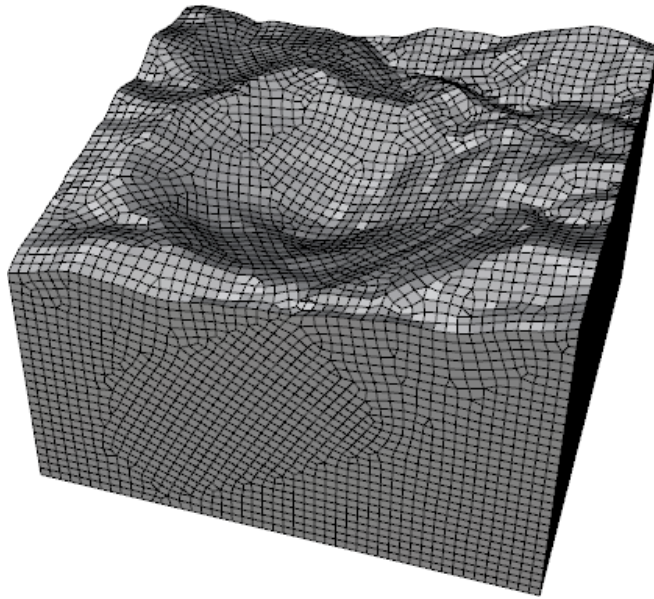

Figure 167: Quad dominant surface mesh of pit and faults.
1. Select the mesh in layer Meshes and type **_GSurf**. Use **Mode:QuadDom**, **MinEdgeLength 50**, **MaxEdgeLength 50** to generate a surface mesh similar to that shown below (Figure 167).